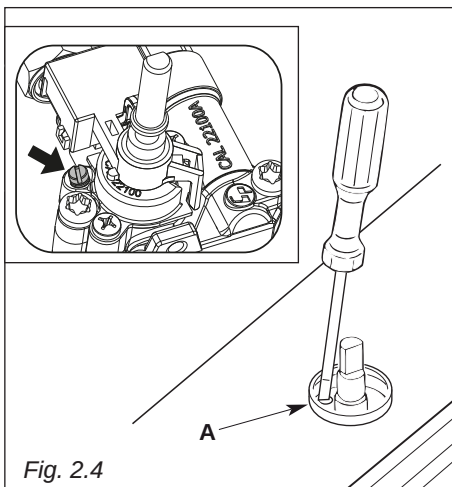

Fig. 2.4
- With a small flat screwdriver turn the screw "A" to the correct regulation (figs. 2.4).